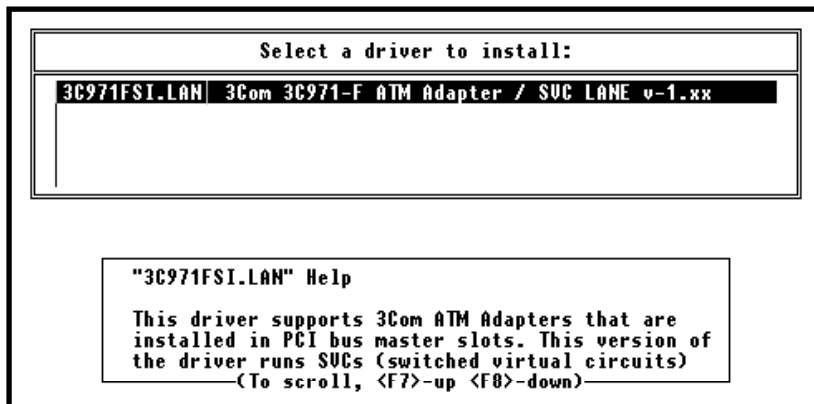

Figure 4-16 Reselect the Driver for Additional Channels
The dialog box in Figure 4-16 appears.
The dialog box in Figure 4-16 is the same dialog box as shown in Figure 4-6. However, this time the driver is obtained from the NetWare server's hard disk instead of the installation diskette. Each channel requires the installation and configuration of a 3C971-F adapter driver.
- 11 Select the 3C971FSI.LAN in the driver selection dialog box shown in Figure 4-16.**